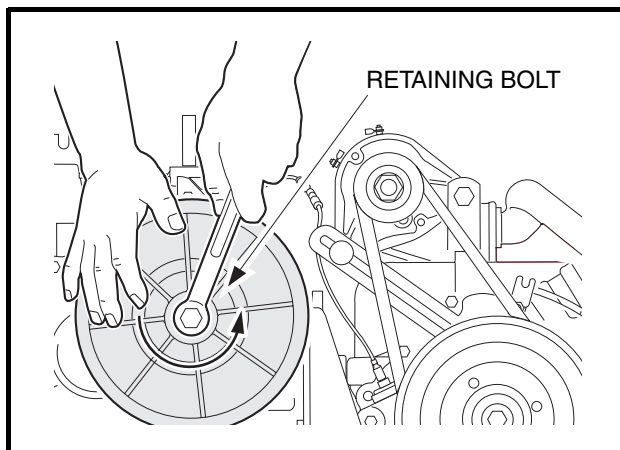

Figure 16-33 Driven Clutch
17. Remove the driven clutch retaining bolt and remove the driven clutch from the unitized transaxle (**Figure 16-33, Page 16-14**).